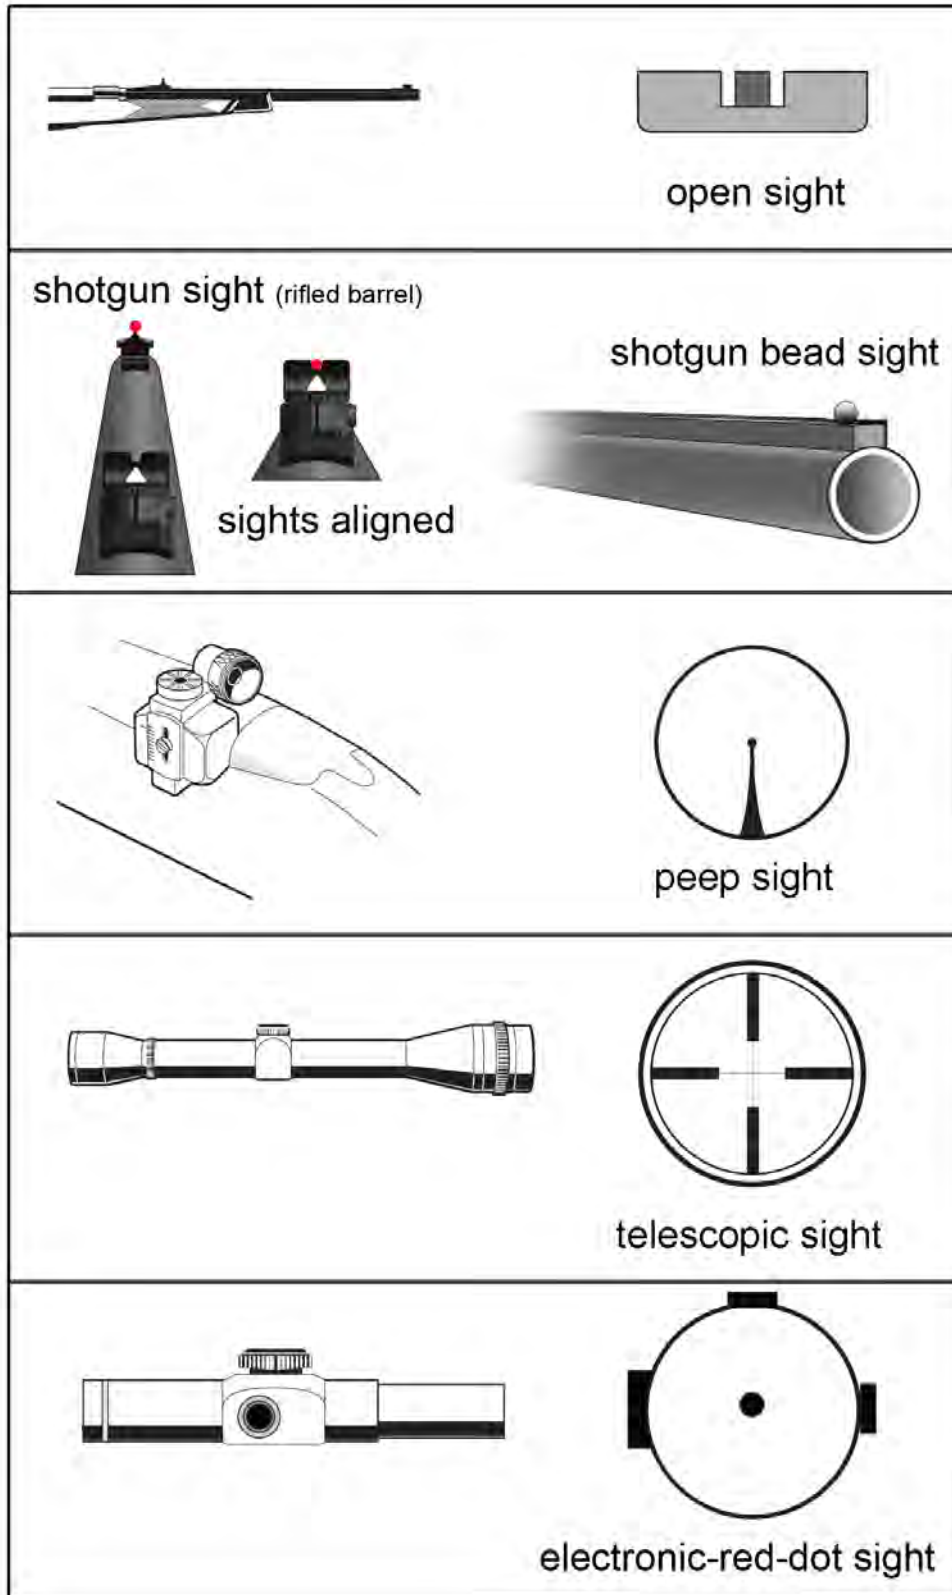

Figure 72. Types of Sights
- a. Most sights are mounted on the top of the barrel (Figure 72). Their purpose is to help the shooter aim accurately.